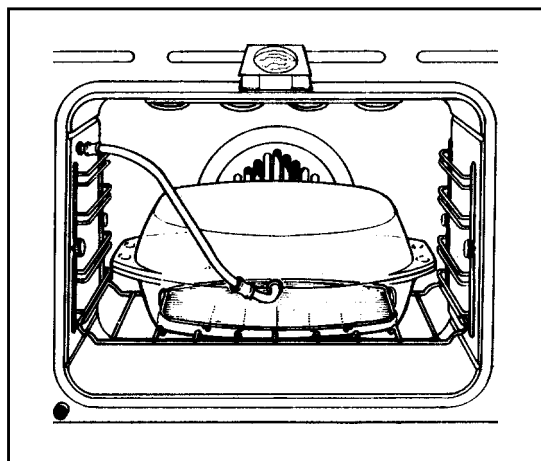

Fig. 9
- a diet cooking double dish, provided with a special mould to allow a steam injector to be fitted to the dish (Fig. 9);
- two different steam injectors, to be used as shown in figures 9 and 10 after being fitted to the exhaust pipe which is supplied with the appliance.
The diet cooking double dish (Fig. 9) is particularly recommended to cook vegetables, as it allows you to keep their original taste and nutrition properties.